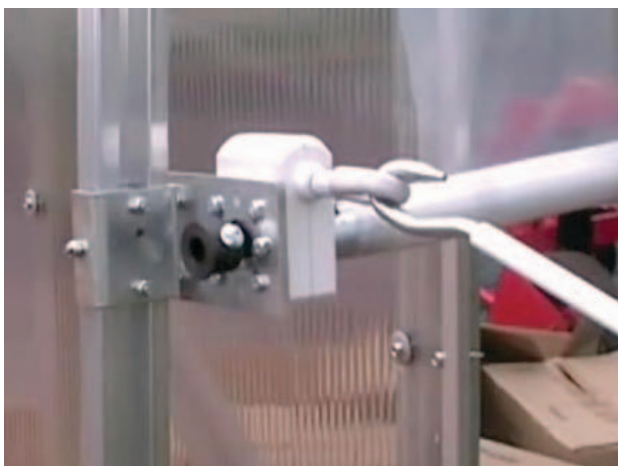

Figure 4
- Attach the Twist-of-the-Wrist gearbox to the mounting plate using hex head bolts (Figure 4).
- Slide the square shaft through the Twist-of-the-Wrist gearbox as shown in Figure 4.